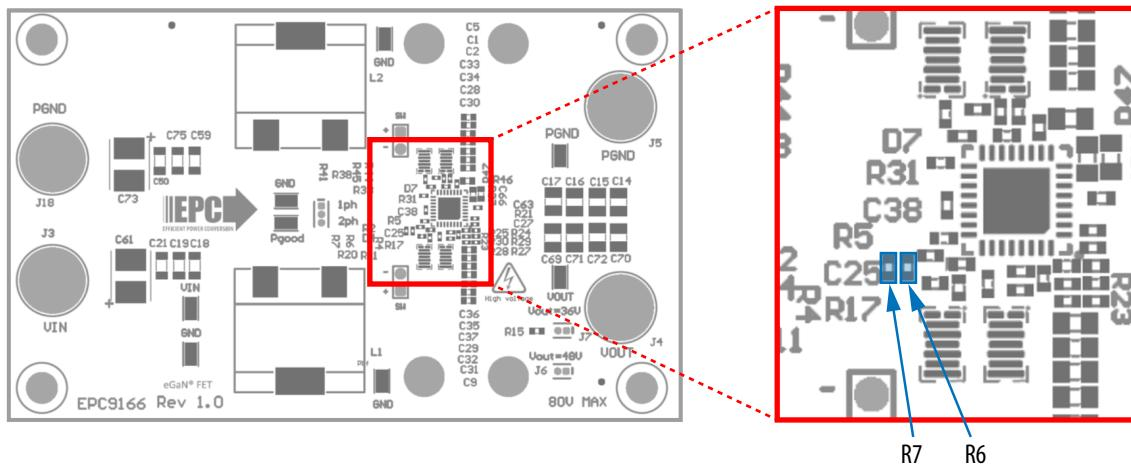

Figure 9: EPC9166 UVLO settings: location of R6 & R7
The input UVLO threshold voltage can be set by R6 and R7 as shown in Figure 9. The default values of  $V_{uv}$  are listed in table 1. If needed, a new UVLO voltage and hysteresis can be set by changing R6 and R7 using equation (1) and (2). Please refer to ISL81807 datasheet for more information.